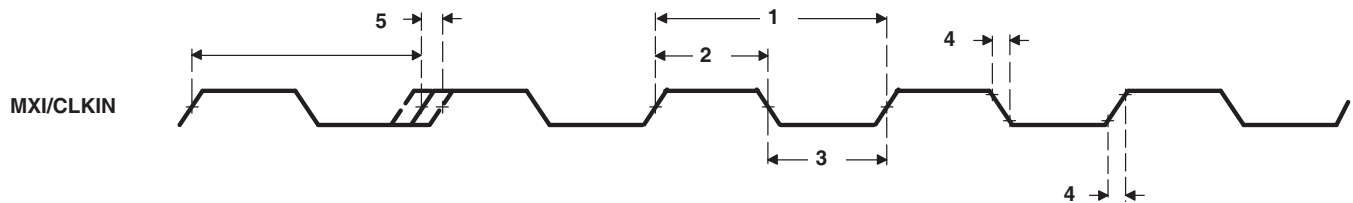

Figure 6-12. MXI/CLKIN Timing
Table 6-19. Timing Requirements for MXI/CLKIN^{(1) (2) (3) (4)} (see Figure 6-12)